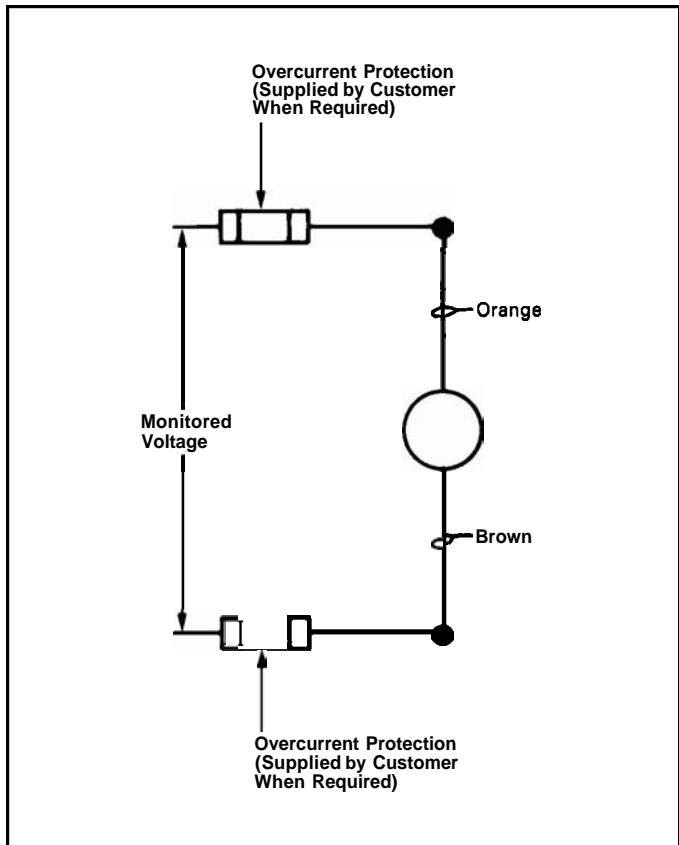

Fig. 2-5 Undervoltage Release Mechanism (Handle Reset) Connection Diagram
- 2.12. Connect UVR to power source to be monitored (see Fig. 2-5).